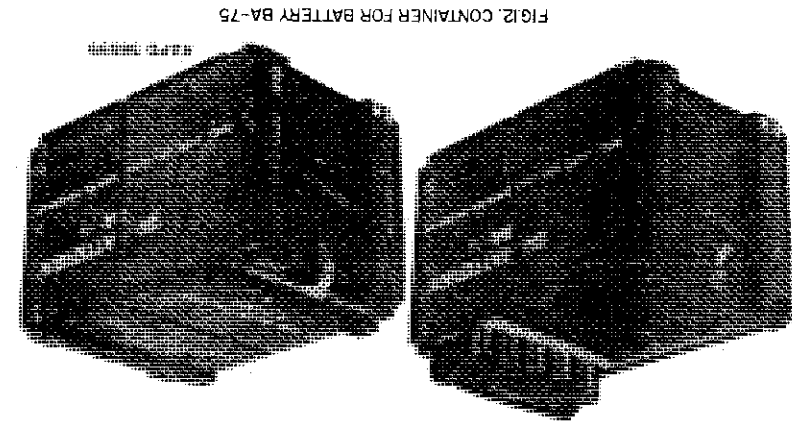

FIG. 12. CONTAINER FOR BATTERY BA-75
- b. Batteries are shipped in separate wooden boxes marked, "120 BATTERIES BA-75". Each box contains 24 sealed fiber cylinders, with 5 batteries per cylinder (fig. 12). Boxes and battery decal-comantas are marked with date of battery manufacture and battery nomenclature.